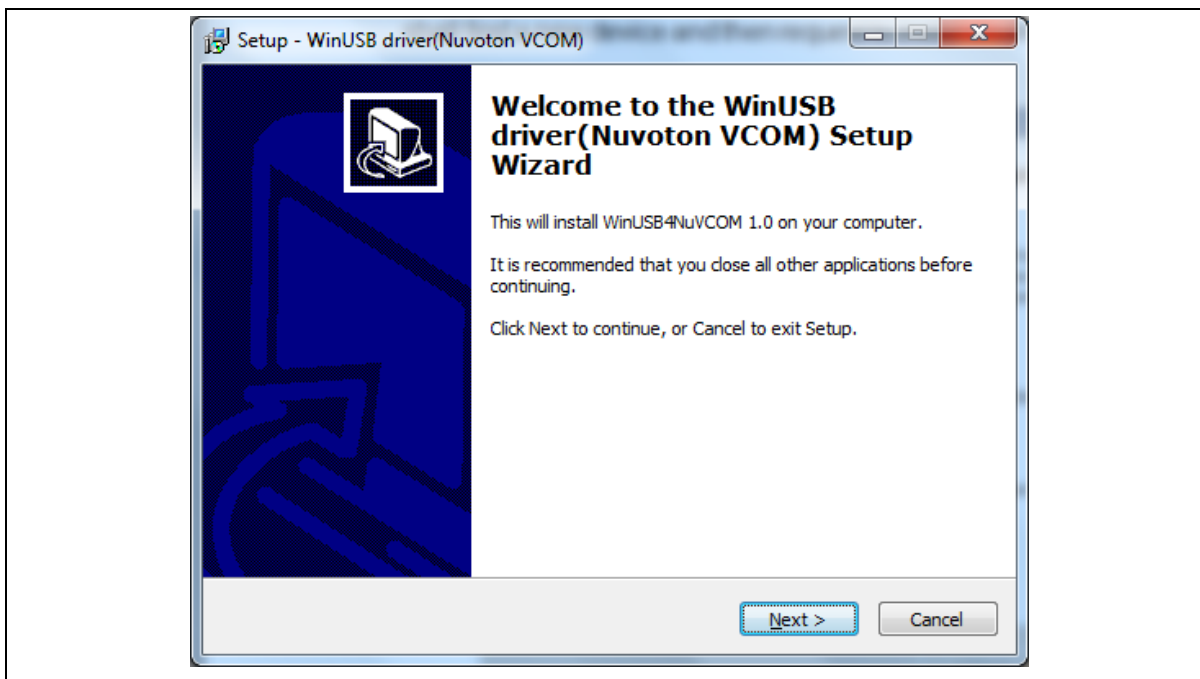

Figure 2-1 WinUSB4NuVCOM Driver Setup (1)
Step 1: After connecting the computer and the MA35 through USB cable, after turning on the power of the MA35 series microprocessor, Windows will find a new USB device, and select the executable file *WinUSB4NuVCOM.exe* on the computer to start installing the driver. (Figure 2-1)